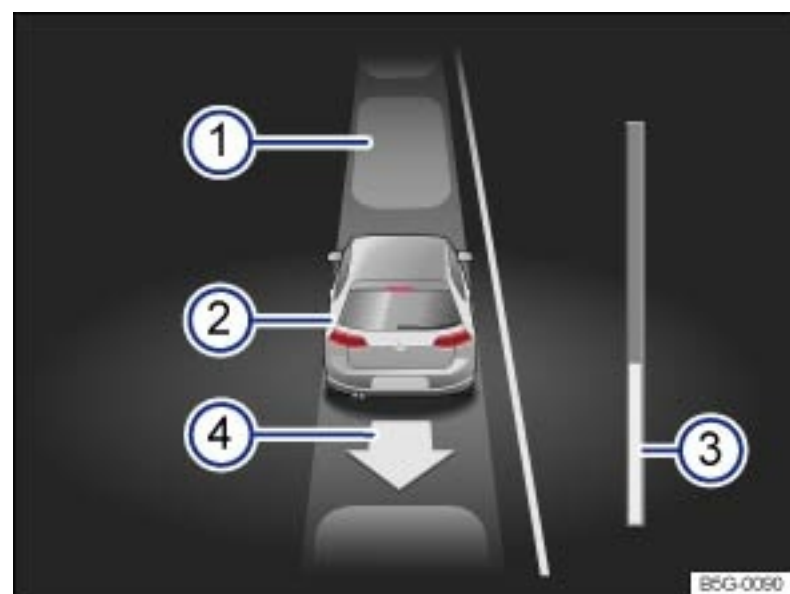

Fig. 175 In the instrument cluster display: Driving out of a parallel parking space.
Key to → Fig. 175:
The progress bar → Fig. 175 ③ displays the distance left to be traveled → Progress bar .